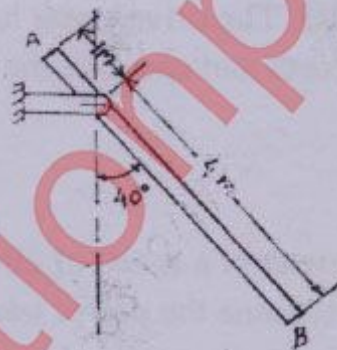

Figure 1
2. (a) A thin rod 5 m long weighing 15 kg is suspended at 1m from the top as shown in figure 1. It is inclined 40 degrees with the vertical and released. Determine angular acceleration of the rod and the acceleration of bottom point B immediately after release.